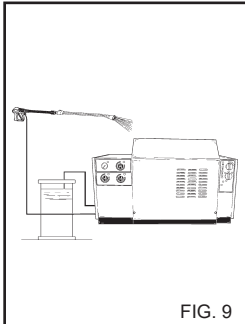

FIG. 9
- 3) After using with detergent, flush out the intake circuit; place the detergent suction hose (fig. 9) in a tank of clean water and let the pump run for 1 minute with the dosing tap turned fully on.